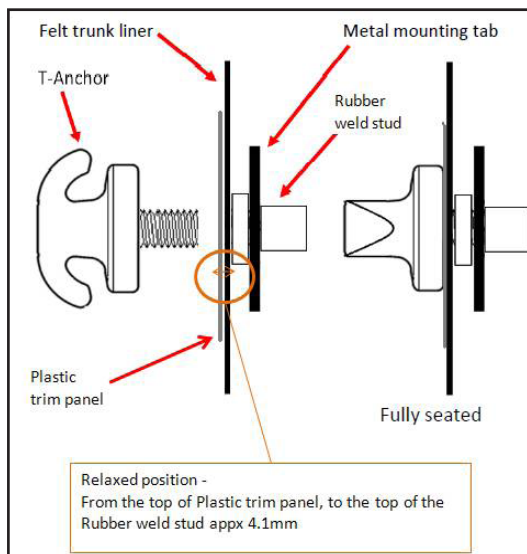

Fig. 9
15. Assemble the 4 T-Anchor's and 4 double threaded stud's. (Fig. 9)